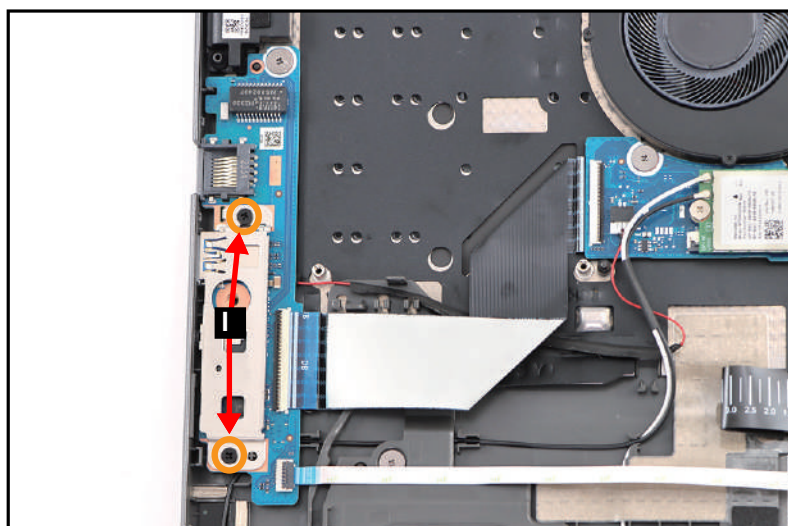

Figure 3-162. Replacing the Smart Card Holder
- Install two (2) screws (I) to secure the left IO bracket (Figure 3-162).